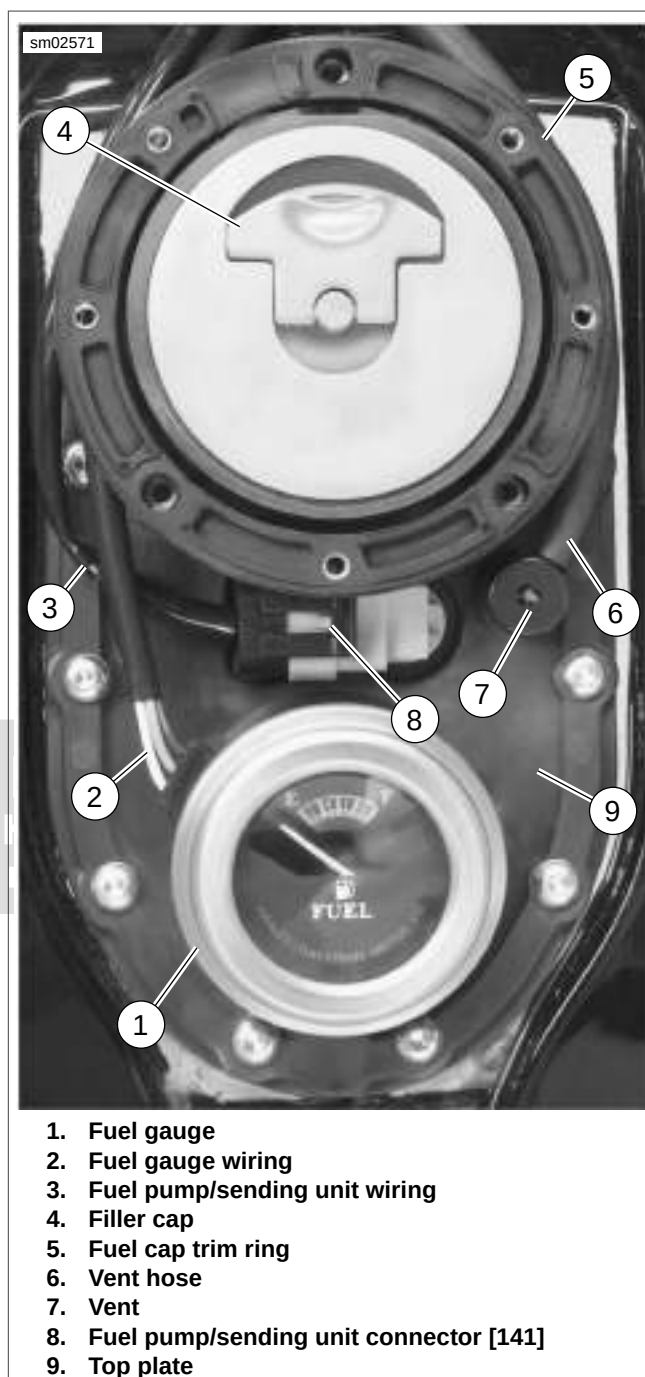

Figure 7-46. Top Plate: FXD
4. See Figure 7-46. Remove fuel gauge (1) from top plate (9).
1. See Figure 7-46. Install fuel gauge (1) into top plate (9).
2. Route fuel gauge wiring (2) as shown.
1. See Figure 7-46. If removed, install trim ring (5) so holes in fuel cap trim ring align with threaded towers of top plate.